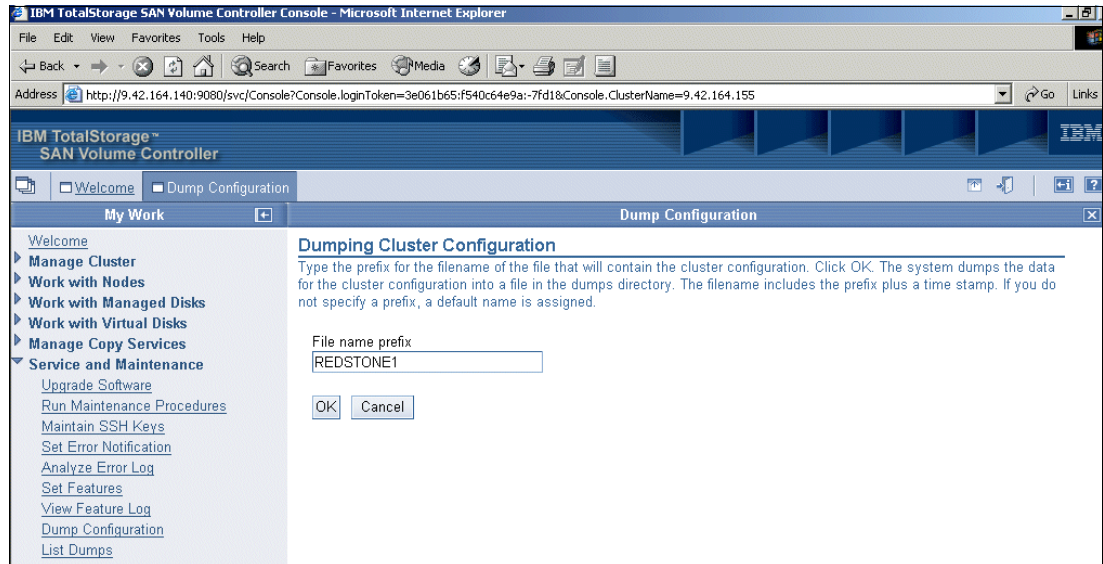

Figure 9-95 Dump configuration
2. On the Dumping Cluster Configuration panel (Figure 9-95), type a unique prefix for the dump file name. Click **OK** to create the dump file.